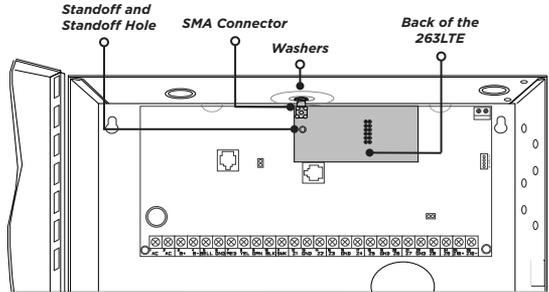

Figure 2: 263LTE on an XT Series Control Panel
3. Align the 263LTE SMA antenna connector with the antenna hole in the top of the panel enclosure, place one washer around the connector, and secure it on the 12-pin cell module connector. See Figure 2.